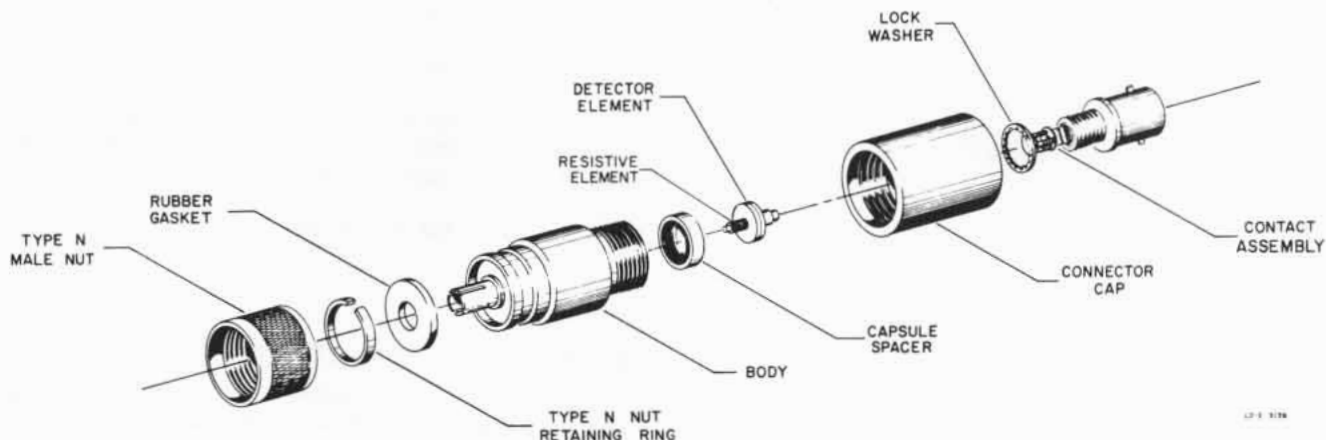

Figure 3. Model 423A Assembly
The special detector element (see Figure 3) contained in the Model 423A can be damaged in handling, removal, or installation if certain precautions are not taken. The handling precautions which follow should be read before performance of any operation with the detector element when it is out of either the Model 423A or the detector element shipping container.
26. Parts mentioned in the following procedure are identified in Figure 3.
29. **PROCEDURE.** Parts mentioned in the following procedure are identified in Figures 3 and 4.